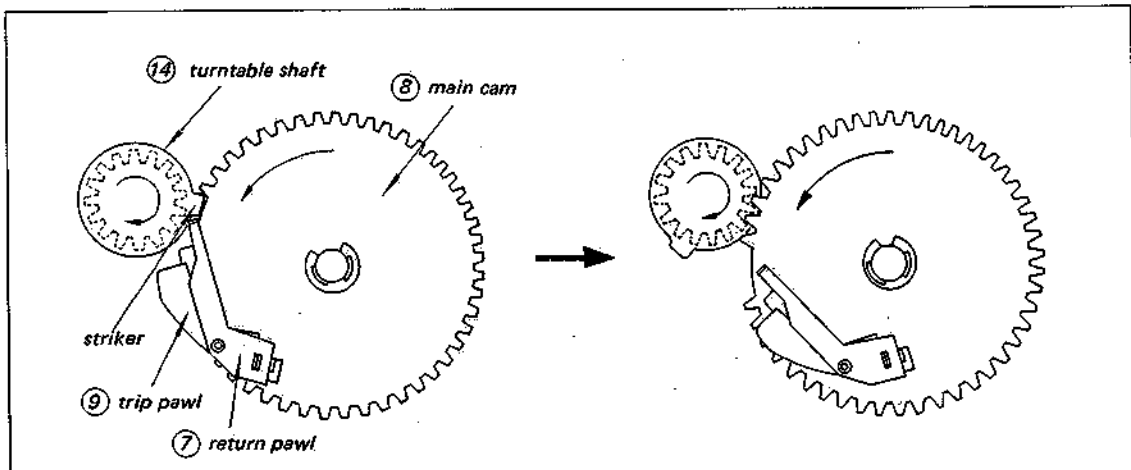

Fig. 1-6. Main cam movement
The return pawl (7) enters path of the striker on the revolving turntable shaft (14) when the stylus enters the eccentric lead-out groove as shown in Fig. 1-6.